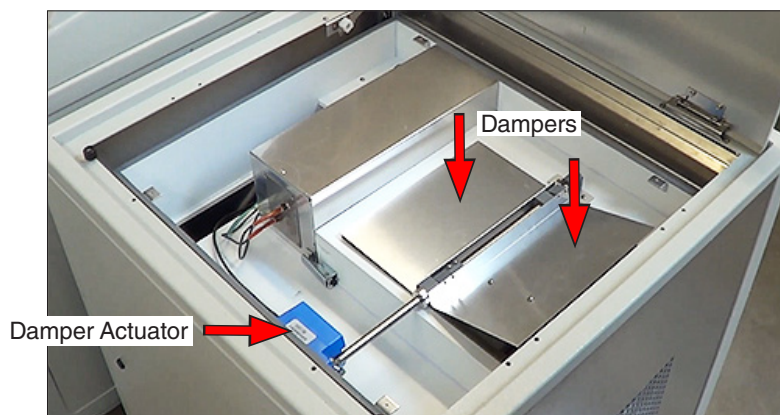

Figure 8.15e: Air Preconditioner dampers in control unit.
- Dampers located inside the control unit are used to control the flow of air in the Air Preconditioner (Figure 8.15e).